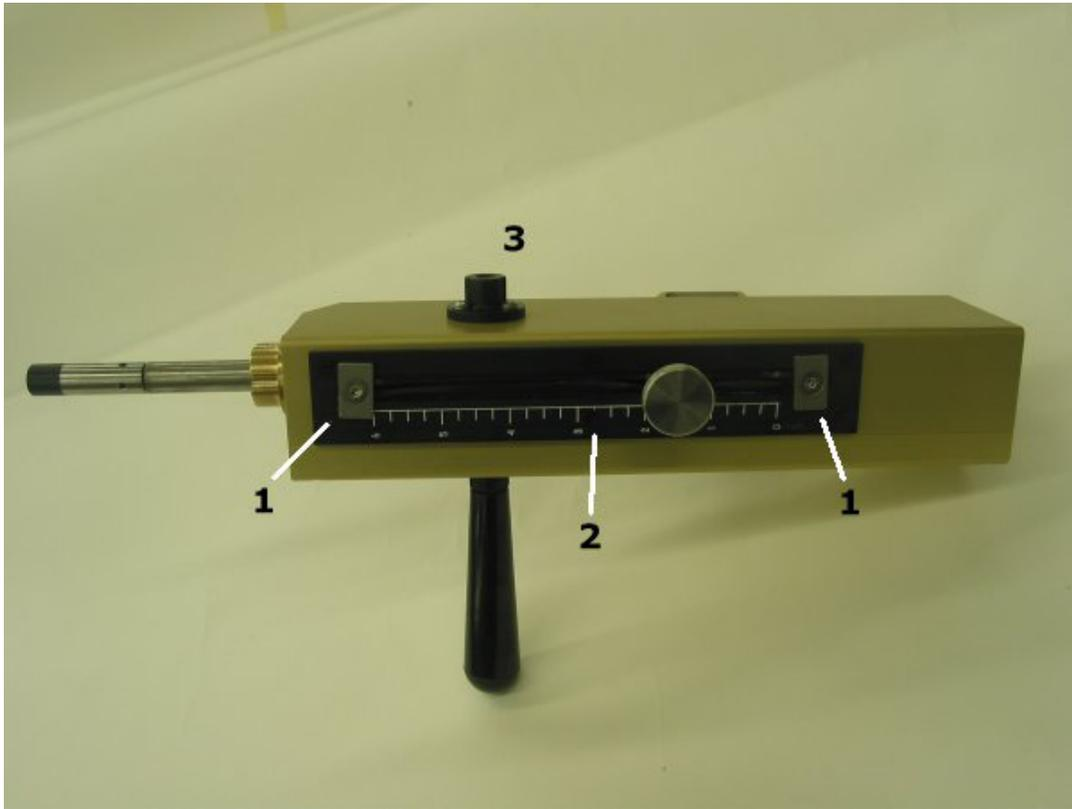

Figure 2
Figure 2 shows the following features:
2. Set the left travel scale limit in **Figure 2** to the desired pull distance.